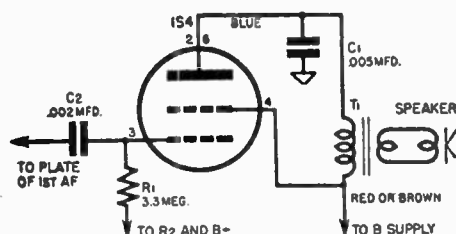

Fig. 8-6. Output circuit.
c) Output Circuit. See Figure 8-6.